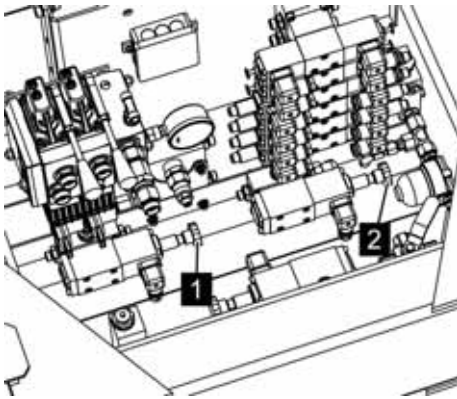

Fig. 121: Shuttle valves
4. ➤ For chain operation, lock the shuttle valves (Fig. 121/1 and 2).
7. ➤ After service operation, unlock the shuttle valves (Fig. 121/1 and 2).
- Make sure that for normal operation, the shuttle valves (Fig. 121/1 and 2) are completely unlocked.